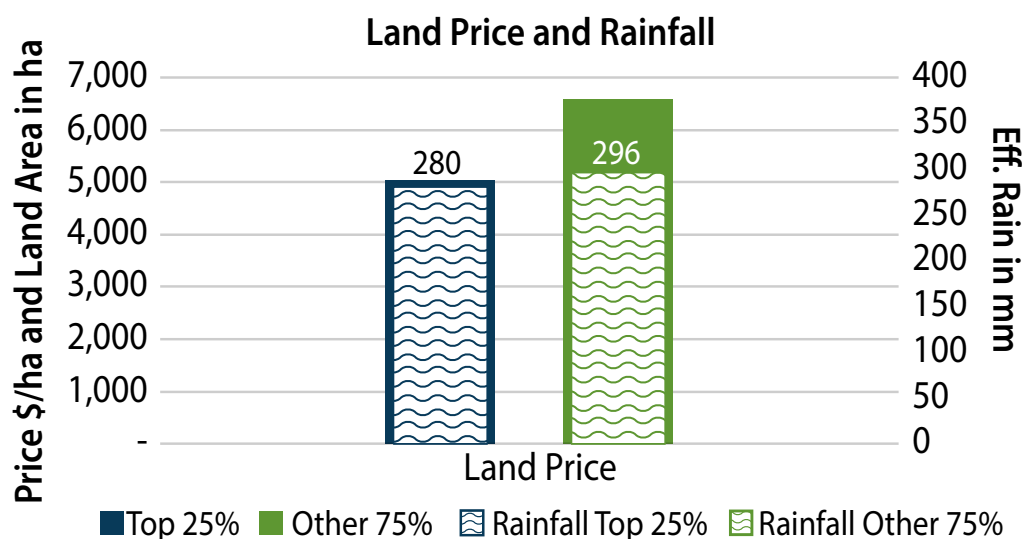

Figure 8: Top 25% versus the Rest in average land price and effective rainfall.
- They don't chase rainfall (see **Figure 8**).